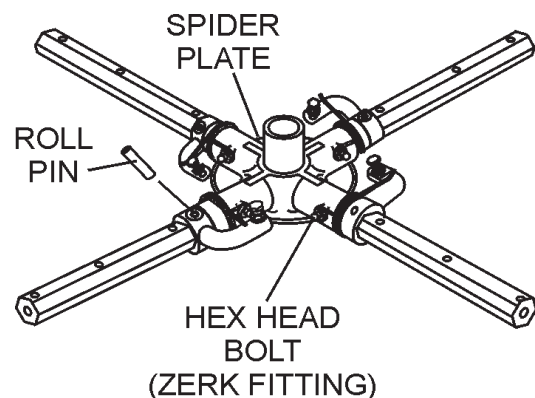

Figure 45. Removing Roll Pin and Zerk Grease Fitting
1. Each trowel arm is held in place at the spider plate by a hex head bolt (zerk grease fitting) and a roll pin. Remove both the hex head bolt and the roll pin (Figure 45) from the spider plate.